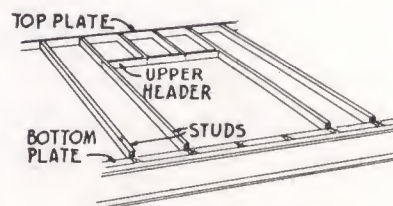
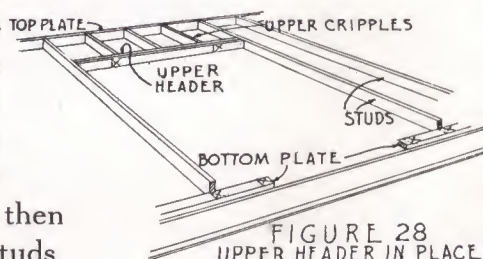

FIGURE 27
FIGURE 28
- (h) Next put in the upper header by spiking it to the ends of the cripples and through the studs at the sides to the ends of header (see Fig. 27). Door and window Headers in openings under 4 feet are doubled, 2 pieces of 2"x4". After the top piece has been spiked in place the lower piece can be nailed to the one above and through the studs into the end of the piece (see Fig. 28).